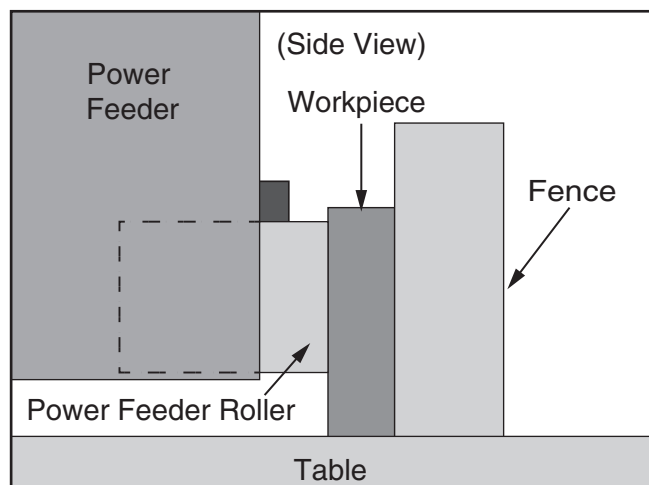

Figure 26. Example of power feeder set up for 90° feeding operation on shaper against a fence.
6. Lower power feeder and adjust it as needed so rollers are parallel with workpiece and workpiece is firmly against fence, as shown in **Figures 26–27**.